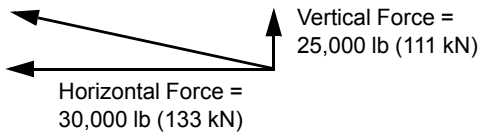

FIGURE 4-1
- If an assist crane is used, it must provide the forces given in Figure 4-1.